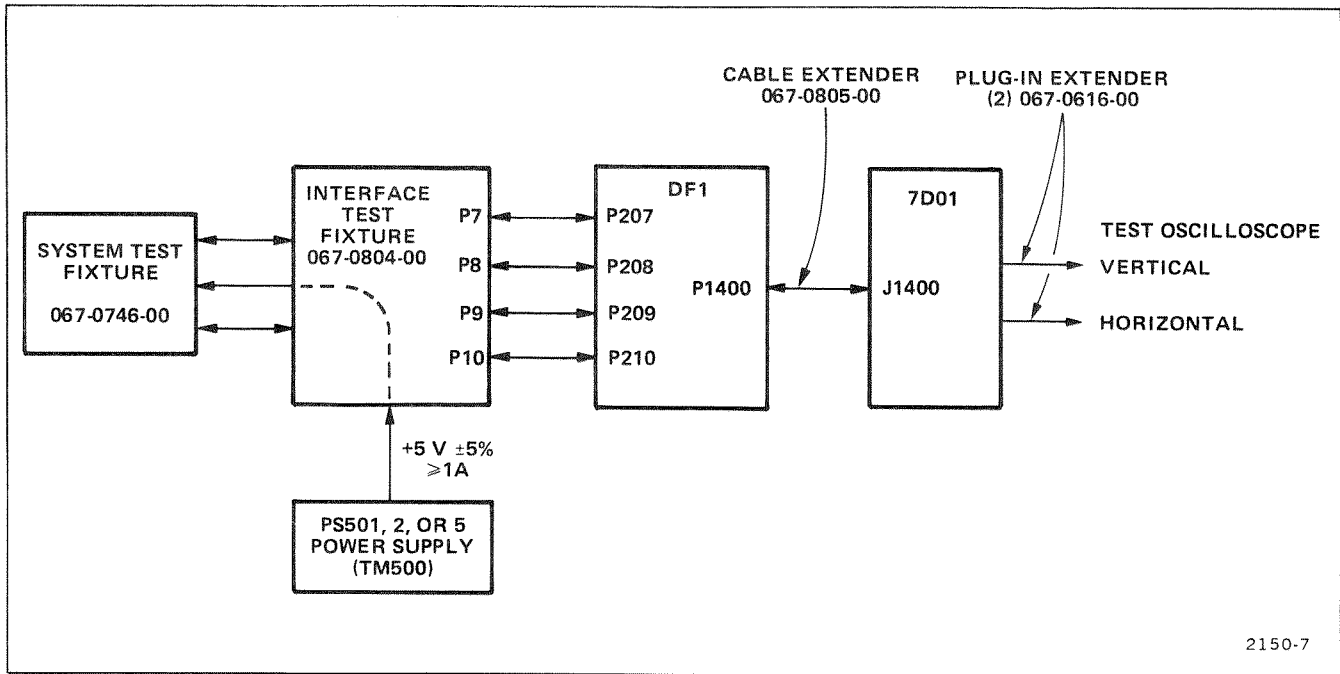
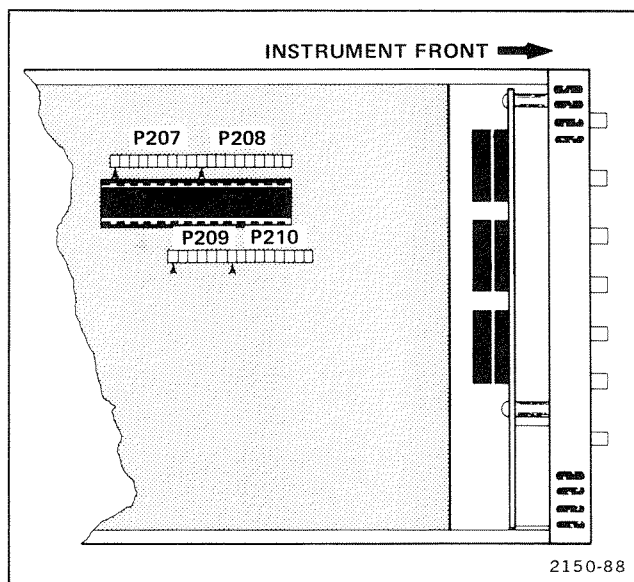

Figure 4-1. Test equipment setup for troubleshooting the DF1 Digital Formatter.
Figure 4-2. Partial view of Intelligence circuit board. Shows pin location and indexing for connection to the Interface Test Fixture.
- a. Connect test equipment as shown in Figure 4-1. The Interface Test Fixture is connected to the DF1 Intelligence circuit board as shown in Figure 4-2.
c. Press the STOP button; the ABA (address bus available) indicator should light. If the ABA indicator does not light, press the RESTART button. If the ABA indicator still does not light, recheck the test equipment setup illustrated in Figure 4-1. Also, check the DF1 clock circuits (O1, O2), reset circuit, power supplies, and the Halt line (pin 2 of U264). Check that the BA output (pin 7 of U264) is not excessively loaded or shorted (low). If the ABA indicator